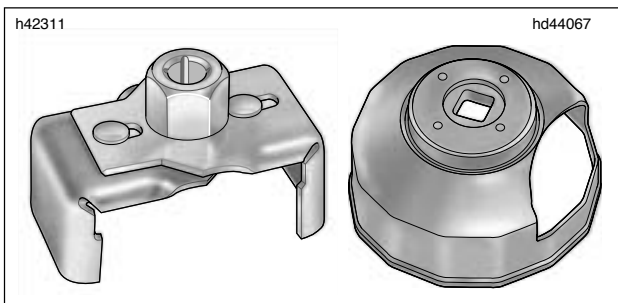

Figure 1-4. Oil Filter Wrench
2. See Figure 1-4. See Figure 1-6. Remove oil filter using HARLEY-DAVIDSON OIL FILTER WRENCH. Turn oil filter counterclockwise to remove from filter mount.